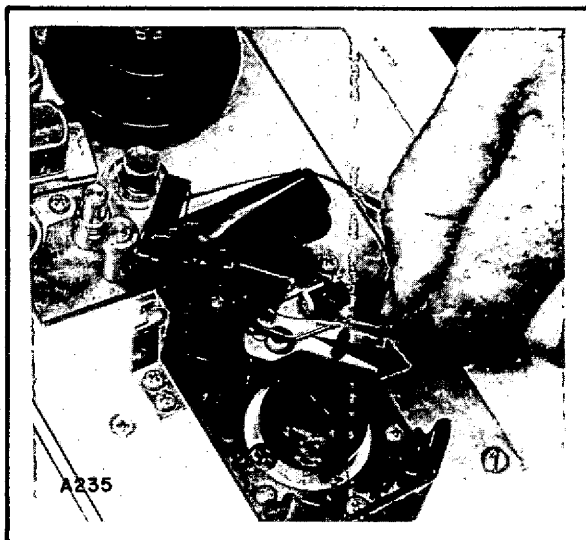

Fig. 4-8. Moving the Clip into the Clip Channel
- j. Move the leader in a counterclockwise direction as shown in figure 4-8 but with the locking lever in the lock position. Continue to gently pull the leader until the leader clip enters the clip channel and will go no further, as shown in figure 4-8.